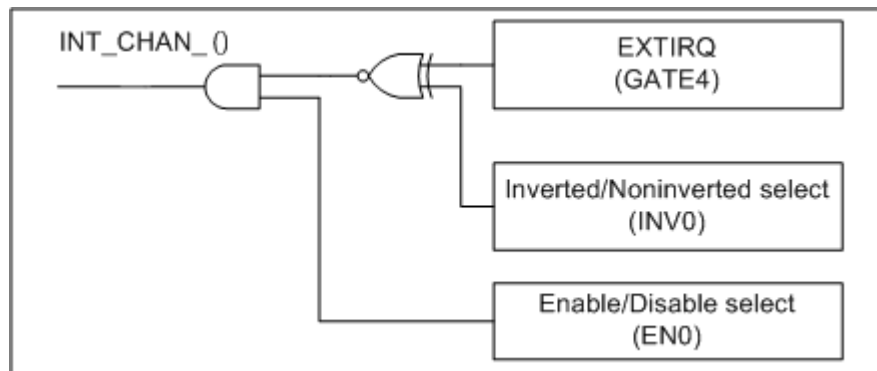

Figure 2.7
Figure 2.7 illustrates the control method of external interrupt. Note that the signal source comes from GATE4. The INV0 is used to invert/non-invert the trigger signal source and EN0 is used to disable/enable the timer interrupt (Pin13 of CN5) (Refer to Sec. 2.5 for the source of interrupt signal). **The INT\_CHAN\_0 must be fixed in low level state normally and generated a high\_pulse to interrupt the PC.**
1. The EN0 can be used to enable/disable the INT\_CHAN\_0 as follows: (refer to Figure 2.7 and Sec. 3.1.4)
2. The INV0 can be used to invert/non-invert the EXTIRQ as follows: (Refer to Figure 2.7 and Sec. 3.1.6)